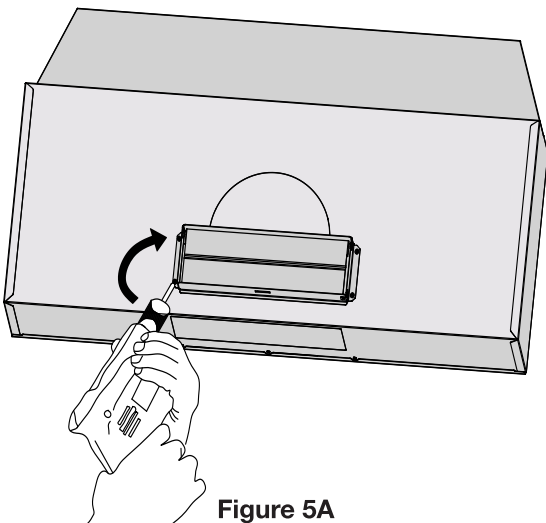

Figure 5A
- Using the supplied ST4\*6 screws, attach the rectangular vent/damper on either the top or rear of the range hood (see Figure 5A or 5B).